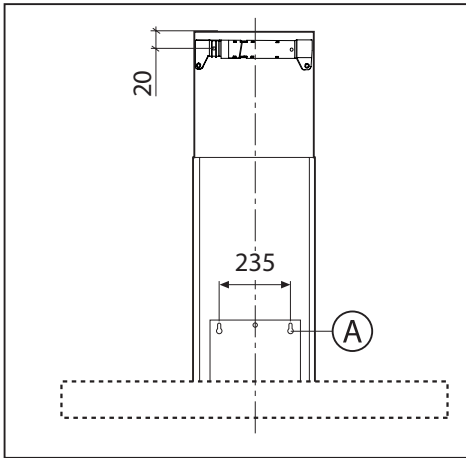

Fig.2
(Fig.2).
-Then fix it to the ceiling using the screws **A** (Fig.4) in such a way that it is in line with your hood and respecting the distance from the ceiling indicated in Fig.2.